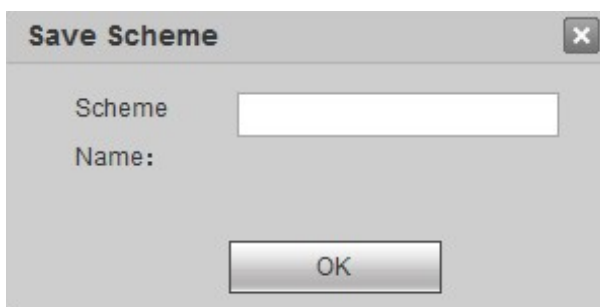

Figure 4-11
Step 2 Click . The system pops up "Save Scheme" window, as shown in Figure 4-11.